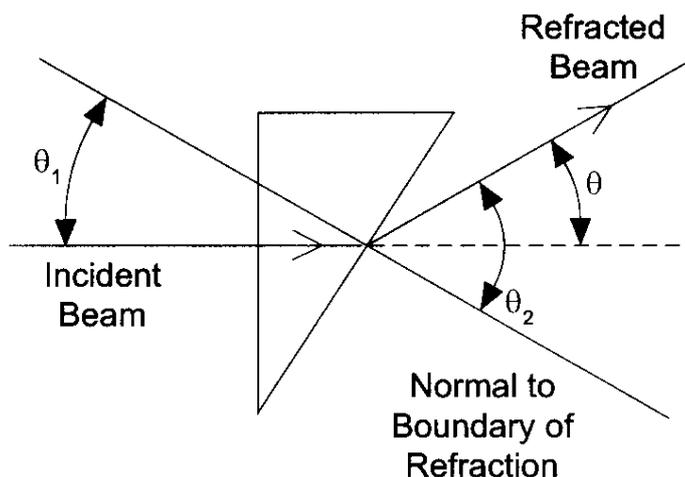

Figure 5.3: Geometry of Prism Refraction
4. Using the diagram shown in Figure 5.3, determine  $\theta_1$  and use your value of  $\theta$  to determine  $\theta_2$ . (You will need to use a protractor to measure the Prism angles.)
1. In the diagram of Figure 5.3, the assumption is made that the wave is unrefracted when it strikes the first side of the prism (at an angle of incidence of  $0^\circ$ ). Is this a valid assumption?